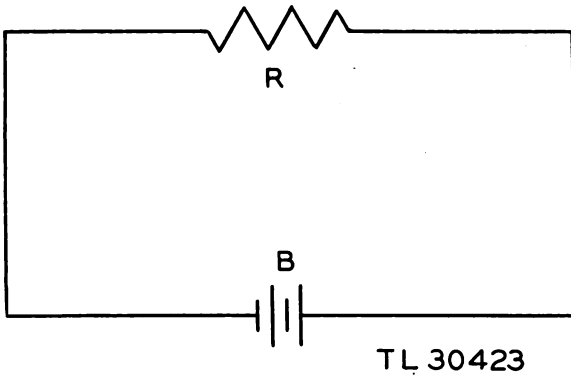

Figure 54. Resistance measurements functional schematic.
a. *Series Circuits.* (1) **GENERAL.** A series circuit is one in which the current has but one path. Figure 54 shows a battery connected across a resistor in a simple series circuit. It is not necessary that R be a resistor. It may be a transformer winding, choke coil, or some other winding which possesses a value of resistance.